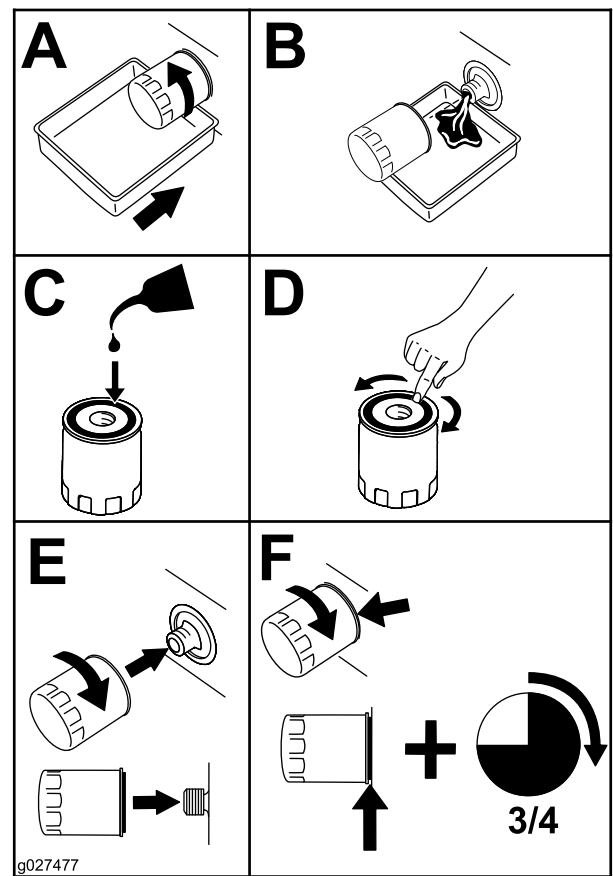

Figure 38
5. Change the engine-oil filter (Figure 38).